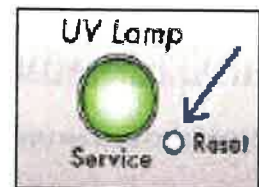

FIG 2
2. Using index fingers, squeeze the locking tabs (FIG 2) inwards towards the center of the grill. Lift the grill up and remove.